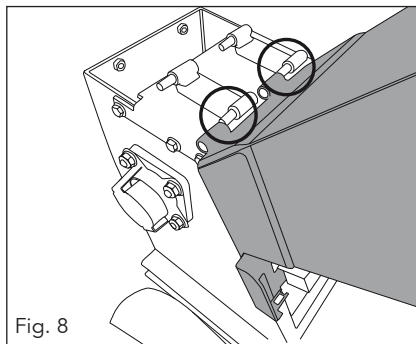

Fig. 8
1. Place the hopper (4) in position on the base frame (9) above the cutting blades and slide it across so that the pins of the frame engage the hinges on the hopper (4) (fig. 8).